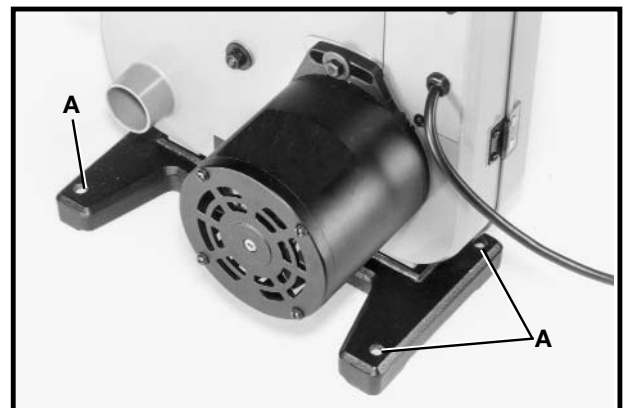

Fig. 14
**⚠ WARNING:** The machine must be secured to a supporting surface. Four holes are provided in the band saw base for this purpose, three of which are shown at (A) Fig. 14.